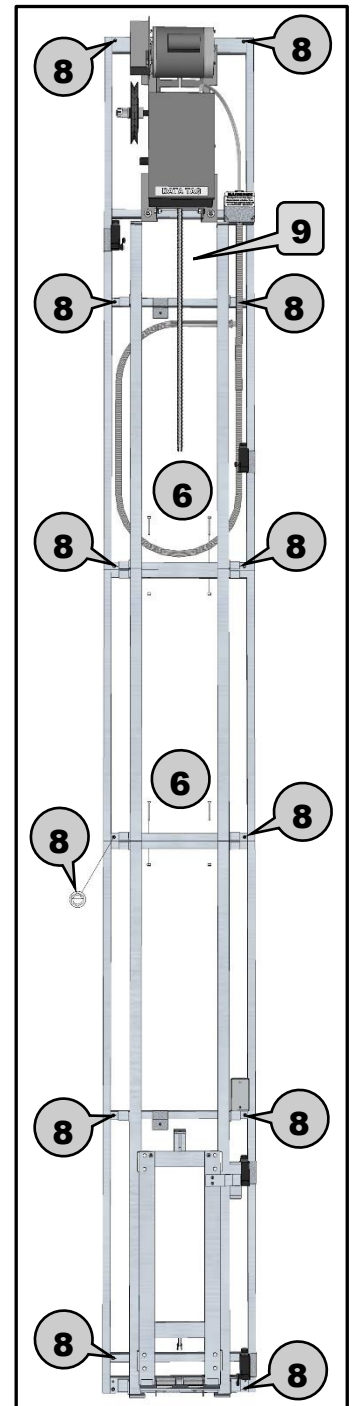

Figure 5
- 6** Use two (2) 1/4" x 2 1/4" bolts & nuts to fasten sections together. (see Figure 5)
- 8** Use provided 3" lag screws to fasten track & rail assembly to wall. (see Figure 5)